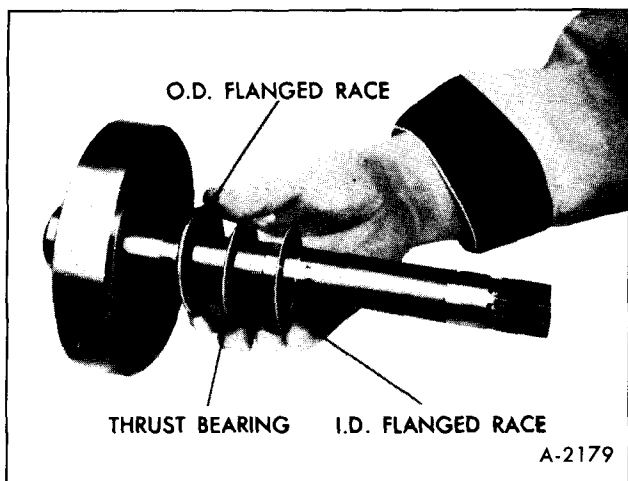

Figure 62—Thrust Bearing Installation
- a. Install large diameter race first, with flange facing up, Figure 62.